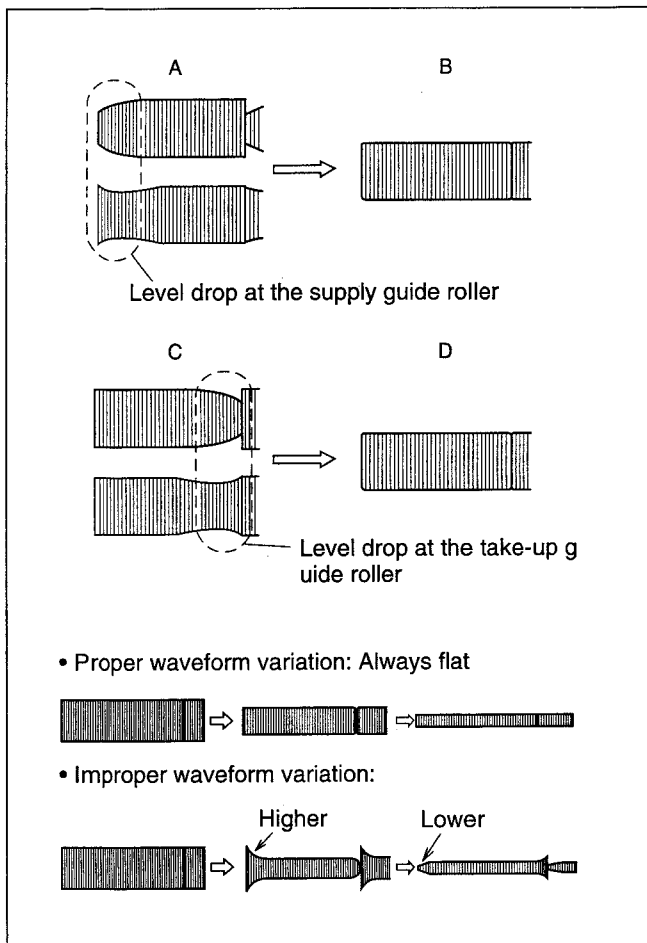

Fig. 2-5-3
- (6) During playback, press the tracking button (+, -) to reduce the FM waveform. If a drop in level is observed at the left-hand side as shown in Fig. 2-5-3, adjust the guide roller on the pole base assembly (S) using the roller driver (PTU94002) so that a linear FM waveform is obtained. If a drop in level is observed at the right-hand side, rotate the guide roller on the pole base assembly (T) for adjustment. (Fig. 2-5-3)
- (7) Play back the MHPE-L alignment tape and check that the FM waveform varies totally in parallel and with linearity by adjusting the tracking. If required, fine-adjust the guide rollers on the pole base assemblies (S), (T).
- (8) After adjusting, tighten the set screw at the bottom of the pole base assembly. (Pay attention not to tighten excessively.)
- (9) After tightening the set screw, play back the alignment tapes MHPE. MHPE-L to check the FM waveform varies as shown in the optimum waveform changing examples.
- (10) When the alignment tape MHPE is played back after being ejected and reloaded or soon after the search reverse mode is operated, check that the FM waveform stabilizes within 2 sec. of appearing. If it takes more than 2 sec., check which side (right or left) of the FM waveform is unstable and check the following items.